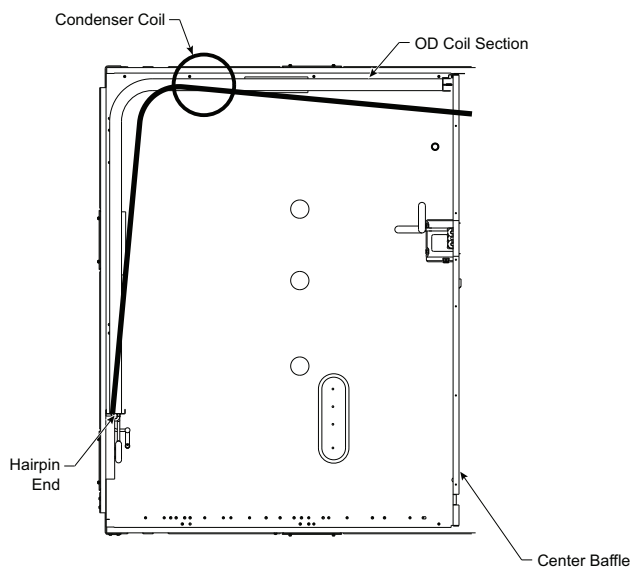

Fig. 24 — Separating Coil Sections (Top View)
8. Insert a spacer (field-supplied) between the tube sheets to hold the coils apart. See Fig. 24.